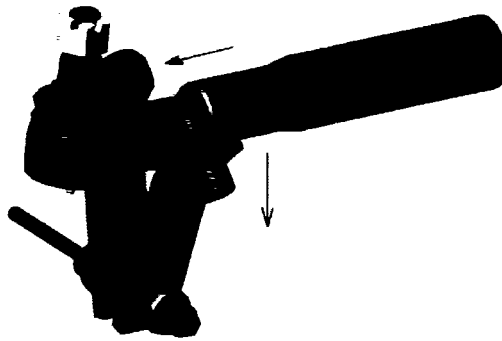

Figure 3
4.- Tighten the feeder screw until the clamp legs spread enough to remove from the cross tube. Figure 3.
5.- Remove clamp and device. Destroy and Discard clamp. Tooling can be reused. Figure 3.